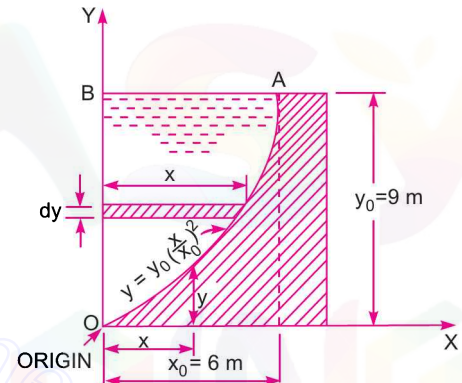

Fig. 3.38
**Problem 3.30** A dam has a parabolic shape  $y = y_0 \left( \frac{x}{x_0} \right)^2$  as shown in Fig. 3.38 below having  $x_0 = 6 \text{ m}$  and  $y_0 = 9 \text{ m}$ . The fluid is water with density  $= 1000 \text{ kg/m}^3$ . Compute the horizontal, vertical and the resultant thrust exerted by water per metre length of the dam.